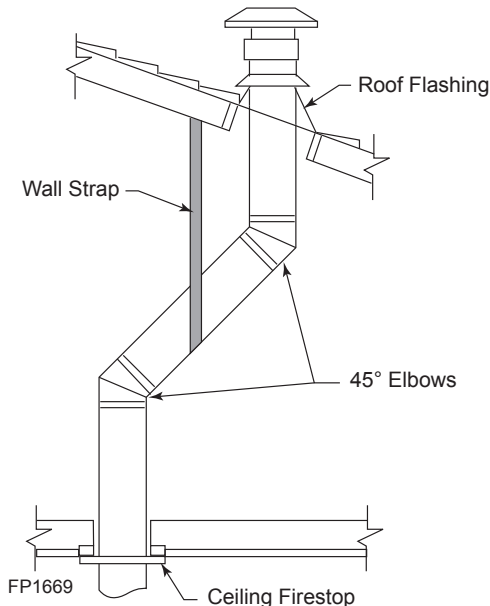
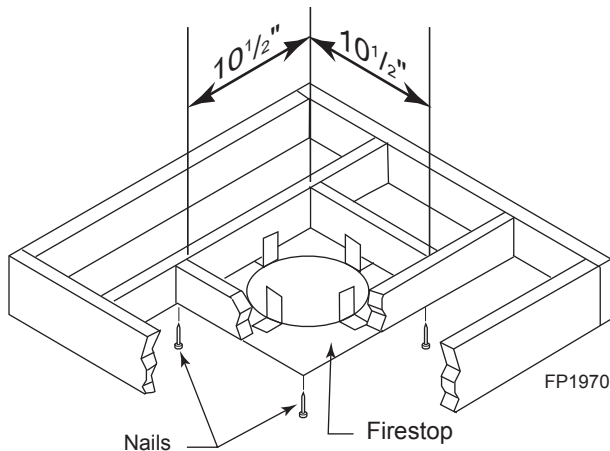

Figure 23 - Offset with Wall Strap and 45° Elbows
Figure 25 -
1. Cut a 10½" (267 mm) square hole in the ceiling using the locating hole as a center point. The opening should be framed to 10½"x10½" (267 x 267 mm) inside dimensions as shown in Figure 25 using framing lumber the same size as the ceiling joist. If the area above the ceiling is an insulated ceiling or a room, nail firestop from the top side. This prevents loose insulation from falling into the required clearance space. Figure 23. Otherwise, install firestop below the framed hole. Figure 25